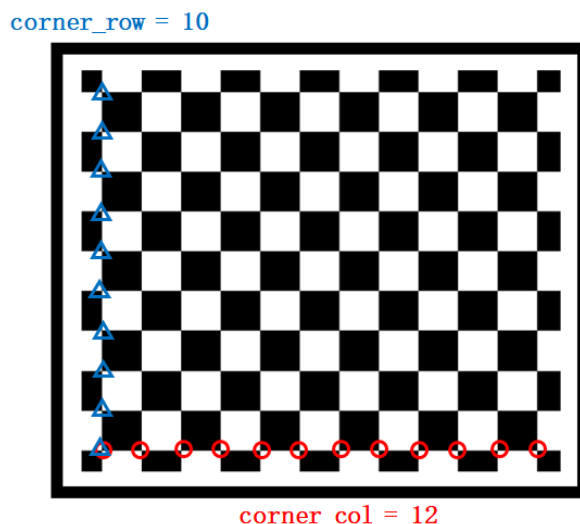
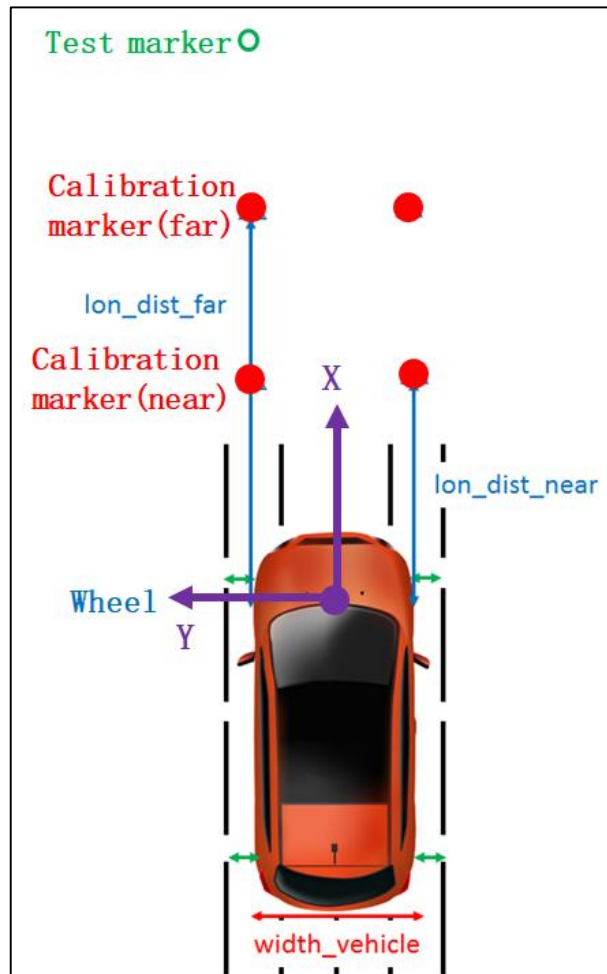

Fig 2-1 Chessboard
Fig 4-1
“config/camera_calib_config.ini” includes the parameters for calibration. [camera_config] records the resolution of the camera. [config_intrinsic_calib] records the parameters of the chessboard which are listed in the following table and Fig 2-1. [config_extrinsic_calib] is general configure parameters of extrinsic calibration, moreover, [Offline_Ext_Calib_Info] input some position for offline extrinsic calibration, as shown in the following table and Fig 4-1.
User can customize other chessboard to calibration. *Note: The pattern should be the same as Fig 2-1.*
- 2) Find a horizontal field with two straight and parallel lines as shown in Fig 4-1.
- 5) The vehicle coordinate is defined in Fig 4-1. The origin of the coordinate system is at the center of front wheel axle, X-axis is along forward direction and Y-axis is along left direction.